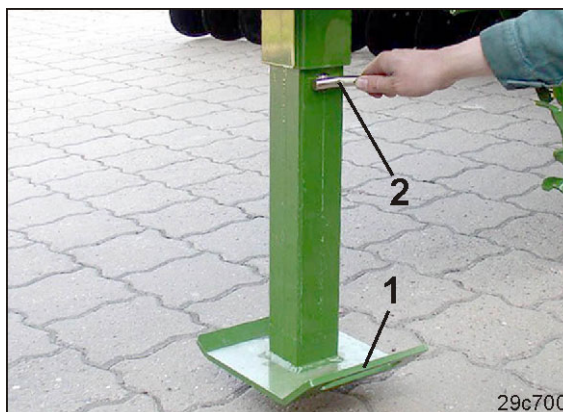

Fig. 152
6. Hold the jack tightly (Fig. 152/1) and remove the positioning pin (Fig. 152/2).